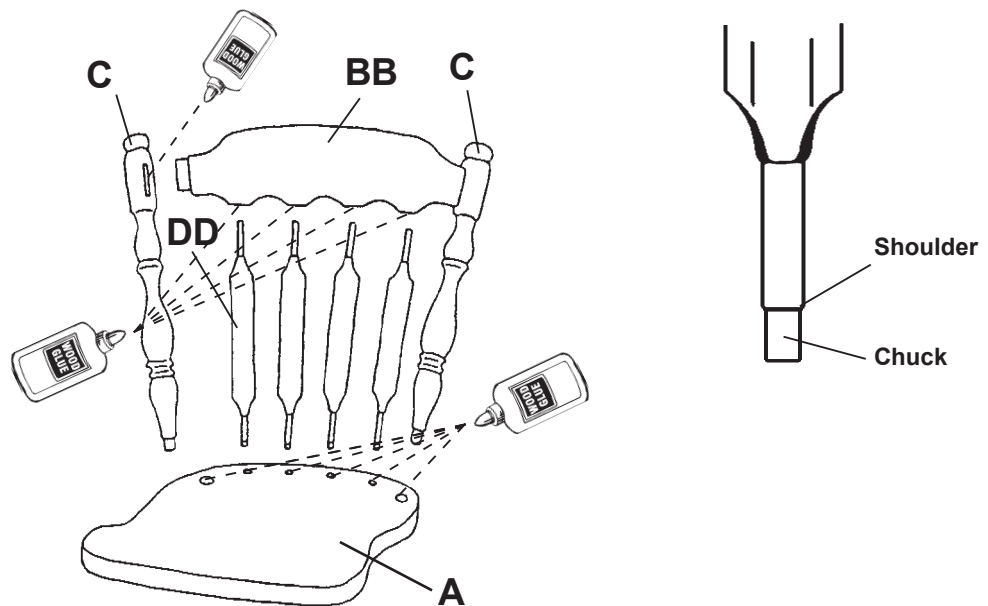

FIG. 1
- 1) Spread glue evenly into the four center holes in the top of the seat (A). Insert chucked ends of the four back spindles (DD) into these holes, as shown in FIGURE 1.
- 2) Spread glue evenly in the 2" oblong holes in the back posts (C). Put the back (BB) and back posts (C) together as shown in FIGURE 1. Spread glue thinly but evenly in the four holes in the bottom of the back (BB), (too much glue and it will drip out) and in the two outside holes in the seat. Insert the back posts (C) into these holes while working the back spindles (DD) into holes in the back, one at a time. Turn the back spindles (DD) so that the flat portions follow the curve of the back (BB). It may be necessary to use a rubber mallet or hammer that has been padded to pound these pieces into place. It is important that the shoulders of the back posts and spindles are in contact with the seat.